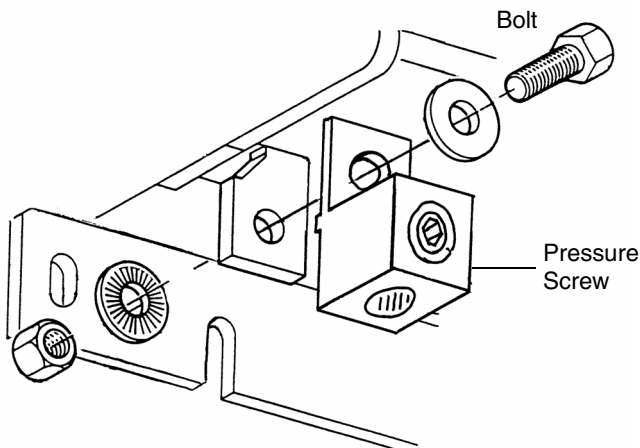

Figure 22: Lug and Washer Orientation
1. Using the hardware provided, attach the lugs as shown in Figure 22. Note the orientation of the washers.